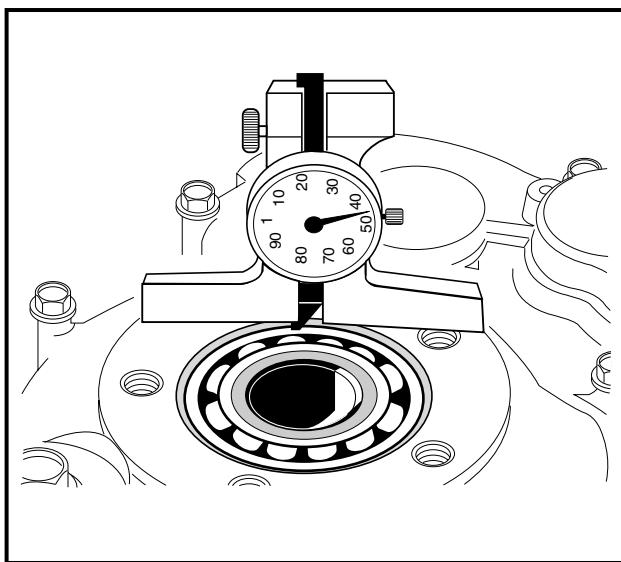

Figure 16b-20 Depth Gauge
If the differential case (36 and 33), transaxle housing (11 and 24), or axle tube (16 and 40) has been replaced, the transaxle may need new shims. To determine whether new shims are necessary, the transaxle must be completely assembled except for the short axle tube (16) and both axle shafts (1 and 2) (**Figure 16b-4, Page 16b-3**).
2. Using a depth gauge, measure the distance from the gasket seal surface of the axle tube to the outer race of the bearing (14) on the differential case assembly (32) (**Figure 16b-4, Page 16b-3**). **See also Figure 16b-20, Page 16b-12.**
8. Connect the brake cables using new bow tie pins (1) (**Figure 16b-8, Page 16b-6**).